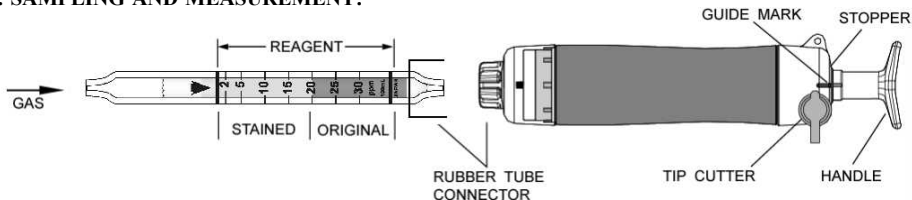

Fig.1
- ① Break both ends of the detector tube.
- ② Insert the detector tube into the aspirating pump securely as shown in Fig.1. (Arrow mark shall point to the pump.)
- ③ Align the guide marks on the shaft and stopper of the aspirating pump.
- ④ Pull the pump handle at a full stroke until it locks and wait for 1 minute or until the completion of sampling is confirmed with the flow indicator of the pump. (See descriptions about the flow indicator in the instruction manual of the pump.)
- ⑤ On completion of sampling, read the scale at the maximum point of the stained layer.
- ⑥ When the concentration is below the scale range, 2 pump strokes can be used to determine concentrations of 1 to 15 ppm. Then multiply the reading value by 0.5.
① Temperature: Correct the tube reading by following temperature correction table.